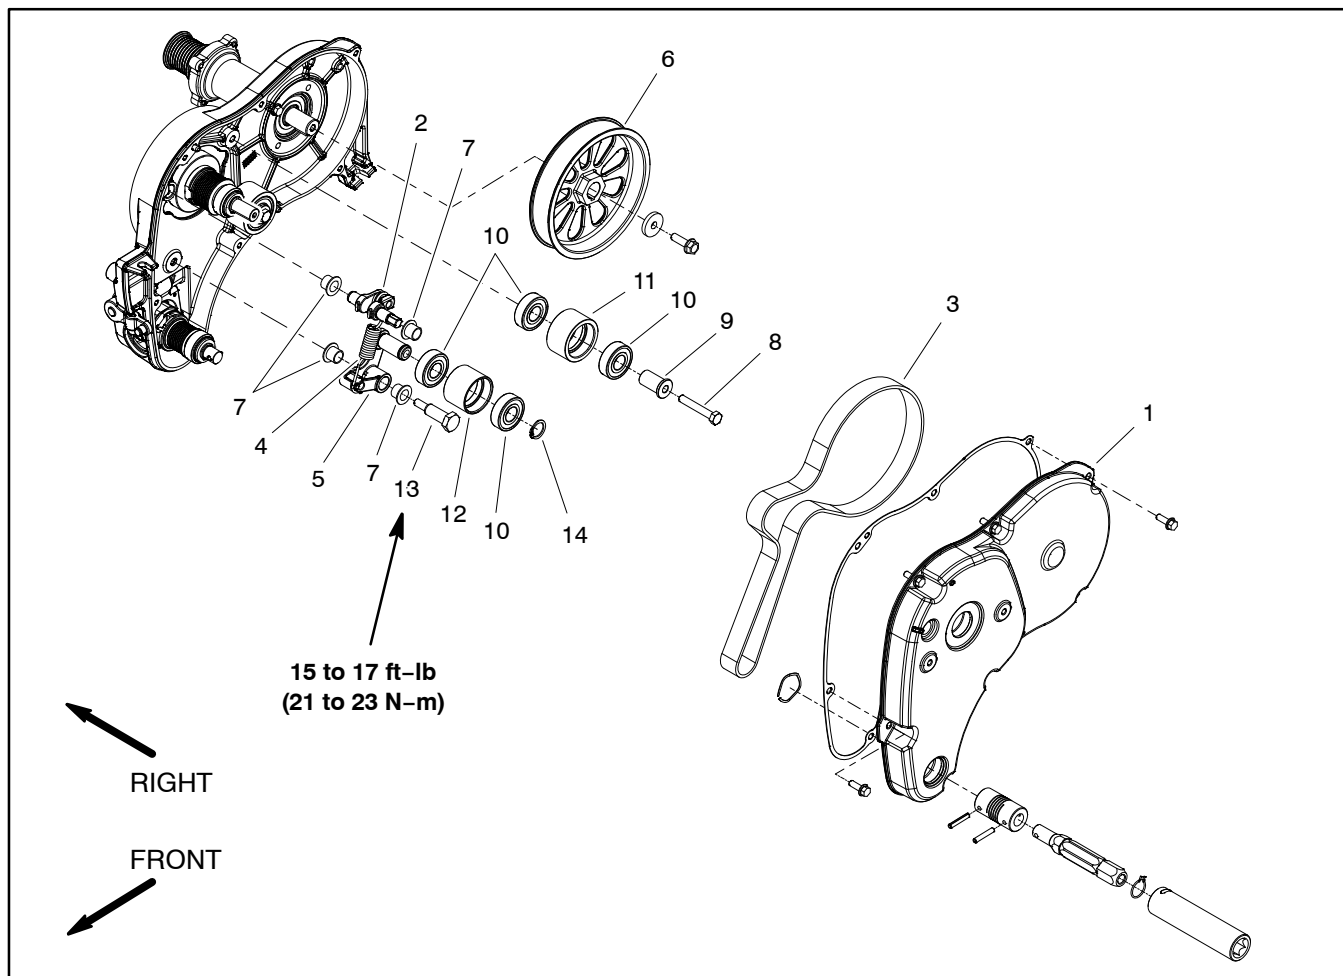

Figure 37
Disassembly (Fig. 37)
3. Disassemble idler system as required using Figure 37 as a guide. Discard ball bearings if they are removed from idler pulleys.
4. Check bushings (items 7 and 9) for wear or damage. Replace bushings if necessary. Bushings for engage/disengage shaft (item 2) are pressed into the transmission housing and cover.
Assembly (Fig. 37)
1. Assemble idler system as required using Figure 37 as a guide. Ball bearings that support idler pulleys are pressed into the pulleys.